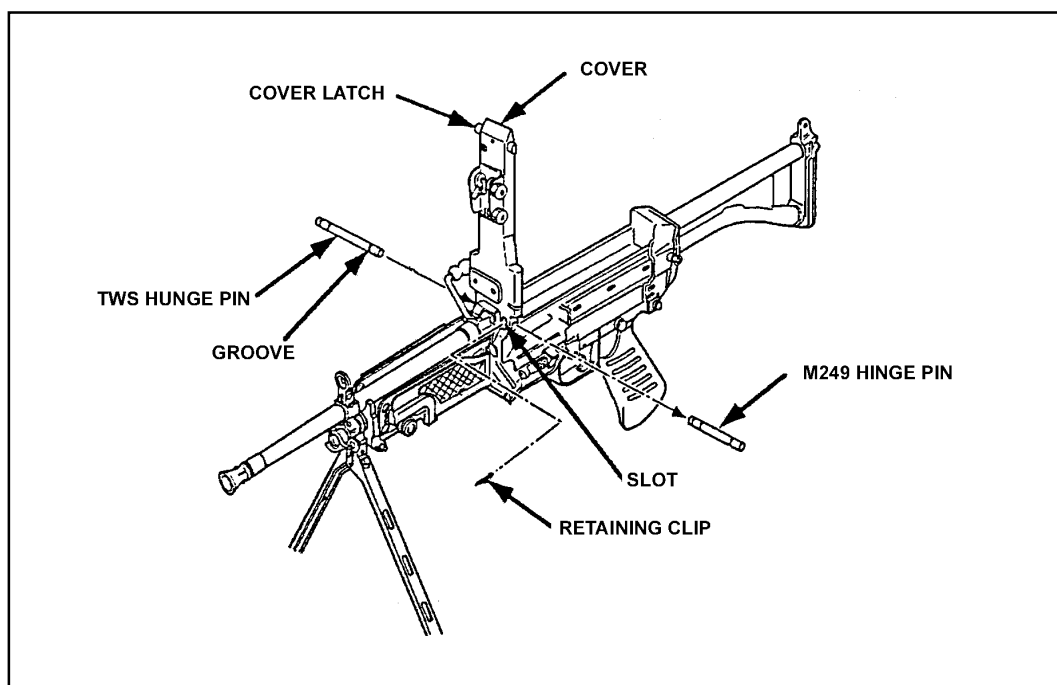

Figure G-28. M249 hinge pin replacement.
- (e) Remove the MWTS hinge pin from the mounting bracket and replace it with the M249 hinge pin (Figure G-28, page G-29). Secure it to the mounting bracket by replacing the retaining clip (the one from the mounting bracket).